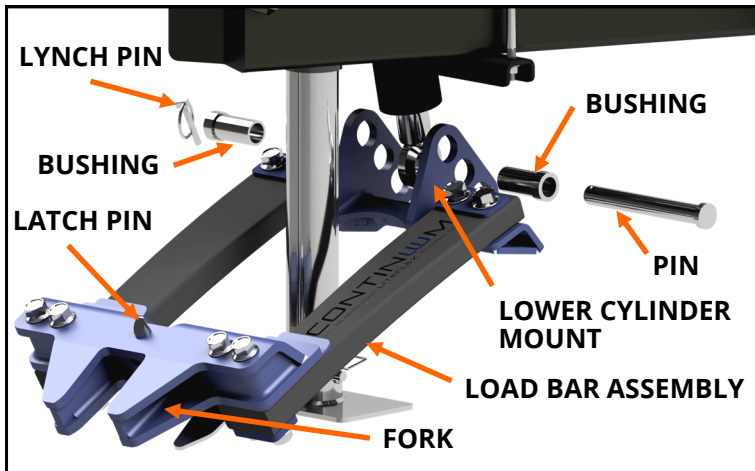

FIGURE G1: View of the load bar assembly under the trailer.
2. **Attach the load bars to the hydraulic cylinder.** Retrieve the load bar assembly. Remove the pin and bushings from the lower cylinder mount. Raise the trailer jack high enough that the load bar assembly can slide under it. Pin the hydraulic cylinder to the center hole in the lower cylinder mount using the removed pin and bushings, **see Figure G1.**